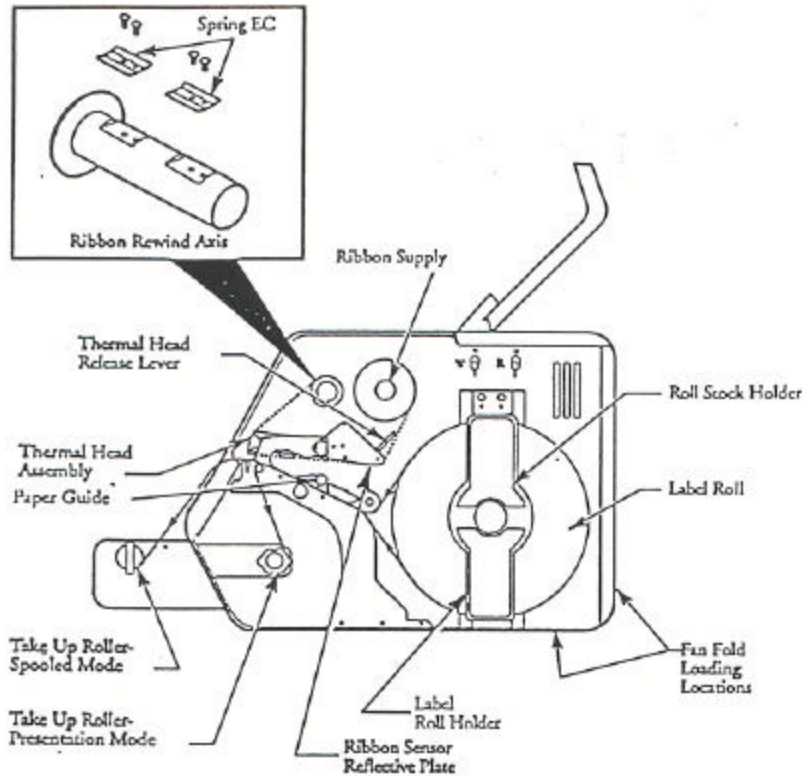

Figure 3: Loading Ribbon and Label Roll
4. Peel off the leader tape from the ribbon roll and feed the leader tape under the thermal head block, then attach the ribbon onto the take-up core. (See Figure 3)
- Load the labels through either position as indicated in Figure 3.